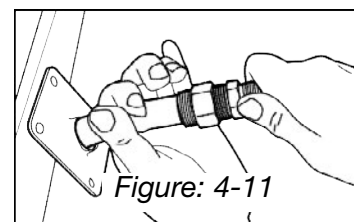
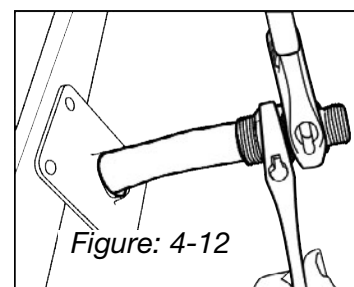
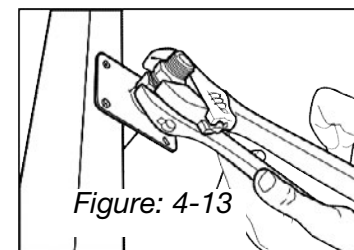

Figure: 4-11
Figure: 4-12
Figure: 4-13
- B. **PIPE TO FITTING CONNECTION:** Attach fitting to pipe following all instructions in step 5. Figure: 4-11 Once the fitting has been tightened to the pipe, slightly loosen this connection until the fitting can be rotated on the pipe. Figure: 4-12 Screw the fitting on to the flange and tighten. Holding the flange fitting nut, re-tighten the body. Figure: 4-13